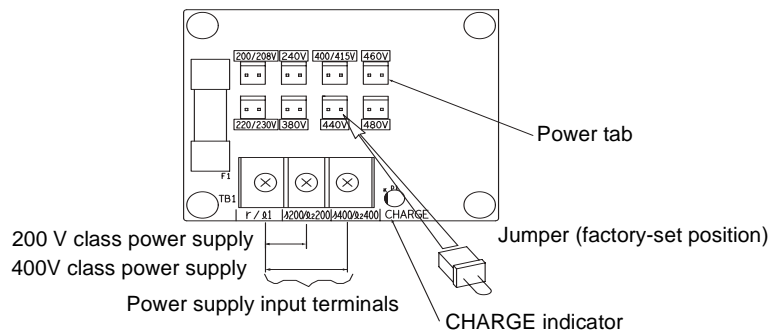

Fig 4.2 Power Supply Voltage Jumper
4. Insert the jumper at the position for the voltage supplied to the Inverter (see *Fig 4.2*).